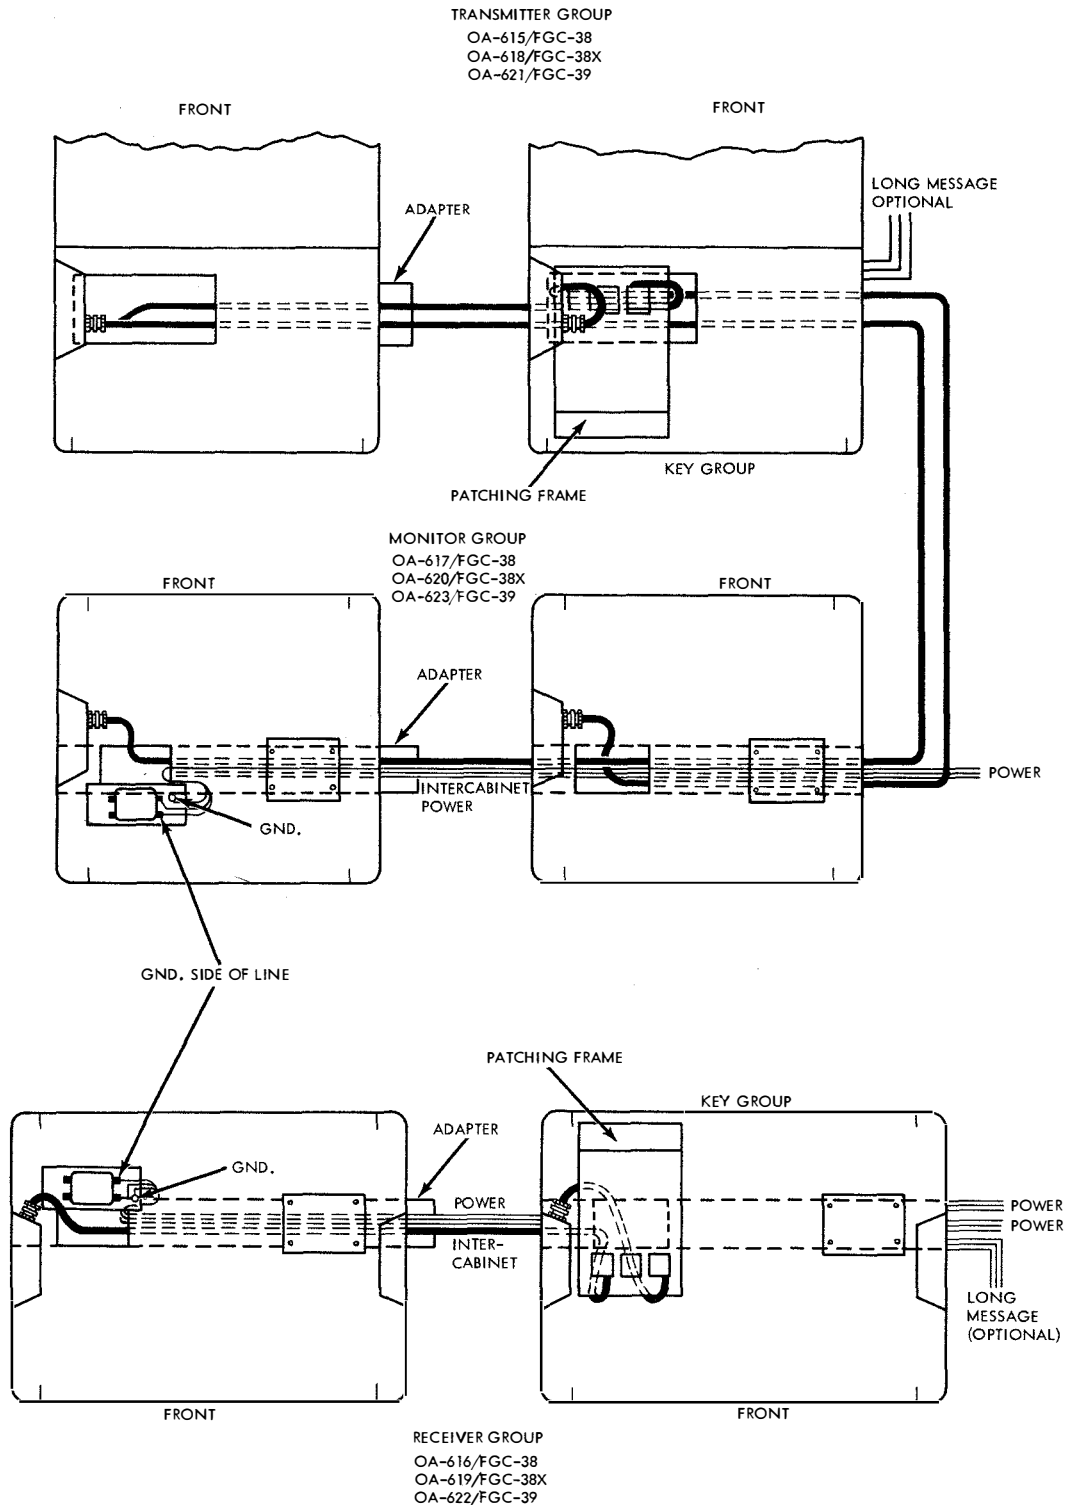

Figure 3-7. Over-all System Cabling Diagram
the individual cabinet through the floor opening nearest the electrical noise suppressor. The power lines must be connected to the electrical noise suppressor as noted on the filter can inside the suppressor or as noted on the actual wiring diagrams (see also figure 3-7). Grounded and ungrounded sides of the power lines are
4. Place the plug connector end of each interconnecting cable through the floor opening in the key cabinet, through the wireway, through the floor opening of its associated receiver cabinet, and connect the plug to the receptacle as shown in figure 3-7. Coil the excess cable in the bottom of its own cabinet so it will not unwind. Place the coil beneath the guide rail.
(b) MONITOR GROUPS.—Remove the fixed shelf in the monitor cabinet and connect the monitor-to-transmitter interconnecting cable (35-point connectors at each end) to the monitor group 35-point receptacle (see figure 3-7). Place the cable through the floor opening, in the monitor cabinet, out of the wireway in the cabinet base, and to the associated transmitter group. Place the cable in the wireway, in the
transmitter cabinet, through the floor opening, and connect to the 35-point receptacle in the transmitter group (see figure 3-7). Coil the excess cable in the bottom of the monitor cabinet. Replace the fixed shelf. Repeat this connection for each monitor group.